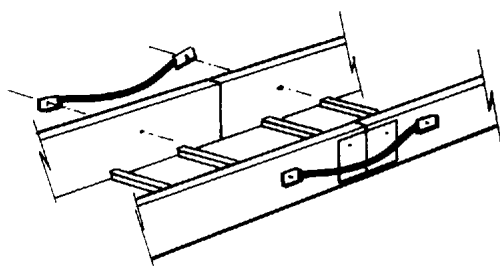

Figure 4.57
Metal cable trays must be grounded and electrically continuous systems per NEC Article 318. For specific areas requiring bonding for electrical continuity, refer to Figures 4.57 through 4.60.
4.7.1 Cable Tray Used as an Equipment Ground Conductor (EGC) (See Figures 4.57 through 4.60)
The use of aluminum and steel cable trays is permitted as an Equipment Grounding Conductor per NEC Article 318 when labeled and marked with the available cross sectional area. (See Table 4-4.) If the cable tray is to be used as an EGC, bonding jumpers must be installed on both side rails at the locations illustrated in Figures 4.57 through 4.60, unless the splice plates meet the electrical continuity requirements of NEMA VE 1. See Table 4-5 for minimum sizes of grounding conductors.